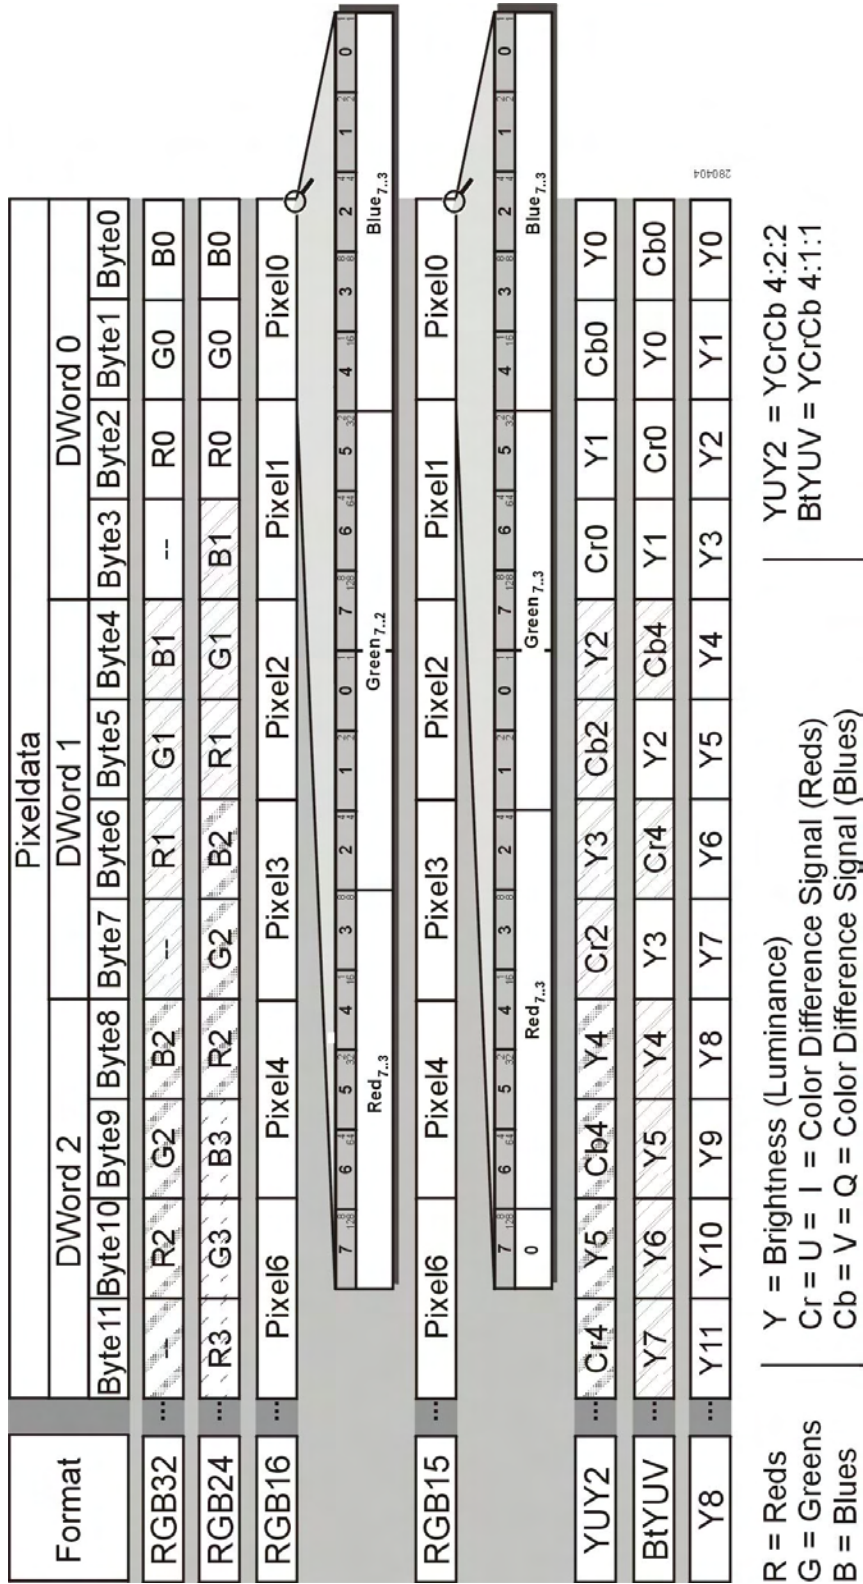

Figure 43: Color Format of the pciGrabber-4plus
The format is determined by the application. In general three formats can be distinguished, which again can be separated in different formats. *Figure 43* shows how pixels can be stored in the memory for different formats.
- For *RGB32* 32-bit, a double word per pixel is utilized. The lowest Byte of each double word contains the information for the blue color (8-bit), the second Byte the green and the third Byte the red color information. The highest Byte contains no information and is used only to obtain a whole double word for one pixel: After each double word a new pixel begins (*see Figure 43 that related information have same hatching*). The alignment of double words might have the advantage, that fast access commands could be used. The number of colors is 16 million ($2^{38} = 16.777 \cdot 10^6$).
- **RGB16** has a reduced resolution of the color. This format requires five bit for the blue and red channel, and the green channel has 6-bits. The color depth is 65.536 ($2^5 \cdot 2^5 \cdot 2^6 = 65536$). One pixel needs 16-bits = 1 word. In *Figure 43* the partitioning into three color channels of the word is depicted. The color information is arranged „left justified“; the lower bits are omitted, so that the color depth is reduced. The color depth of the green channel is twice of the two other channels. The RGB16-format corresponds to the color system of graphic cards with 65.535 colors.
- **RGB15**: The division corresponds to the RGB16-system, except that all color channels have the same color depth (each 5-bit=32 levels). Therefore we yield 32.818 colors. Altogether only 15-bits are necessary, so that the upper bit of a word is a stuffing bit and has the value 0 (*see Figure 43*).
- *BtYUV* : corresponds to YCrCb 4:1:1. Four pixels share one color information. The arrangement of the information in the memory is shown in *Figure 43*. Three double words are logically combined to one unit and contain the information for eight pixels. This is the value for the brightness for each pixel (Y0..Y7) and the color information of the first (Cb0/Cr0) and fifth pixel (Cb4/Cr4).